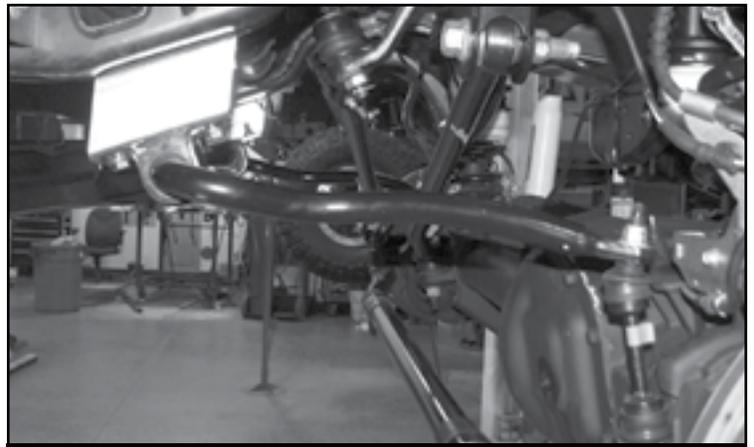

FIGURE 21 - STEP 27
27. Install FT3400-112P (Driver) & FT3400-112D (Passenger) Sway bar drop brackets using the factory hardware. Torque to 35 ft-lbs. Reinstall the front sway bar to the end links using the supplied 7/16" hardware torque hardware to 83 ft-lbs. Reconnect the sway bar to the endlinks. Torque to 59 ft-lbs **SEE FIGURE 21**